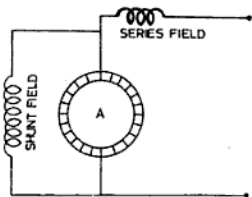

Fig. 7.22 Short-Shunt Compound generator
- (i) **Short-Shunt Compound Generators** If the shunt winding is connected in parallel to the armature and the series winding is connected in series with the combination, as shown in the Fig. 7.22 it is called a short compound generator.